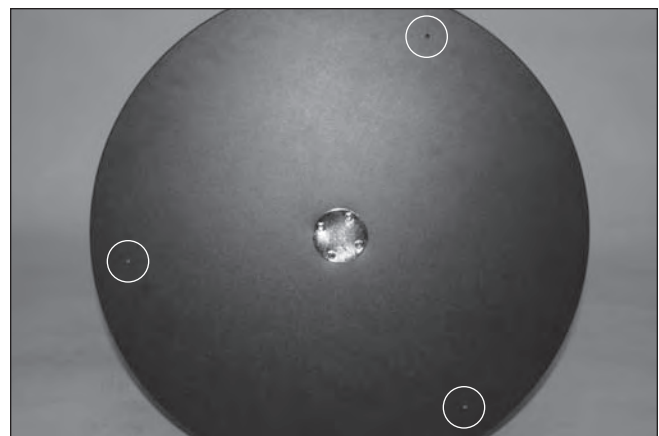

Figure 6. Starter holes for feet.
1. Turn the baseplate assembly upside-down and gently rest it on the azimuth motor housing. Locate the three starter holes on the perimeter of the bottom baseplate (**Figure 6**). Insert the screws through the feet and thread them into the predrilled starter holes (**Figure 7**) with the supplied Phillips screwdriver until tight.